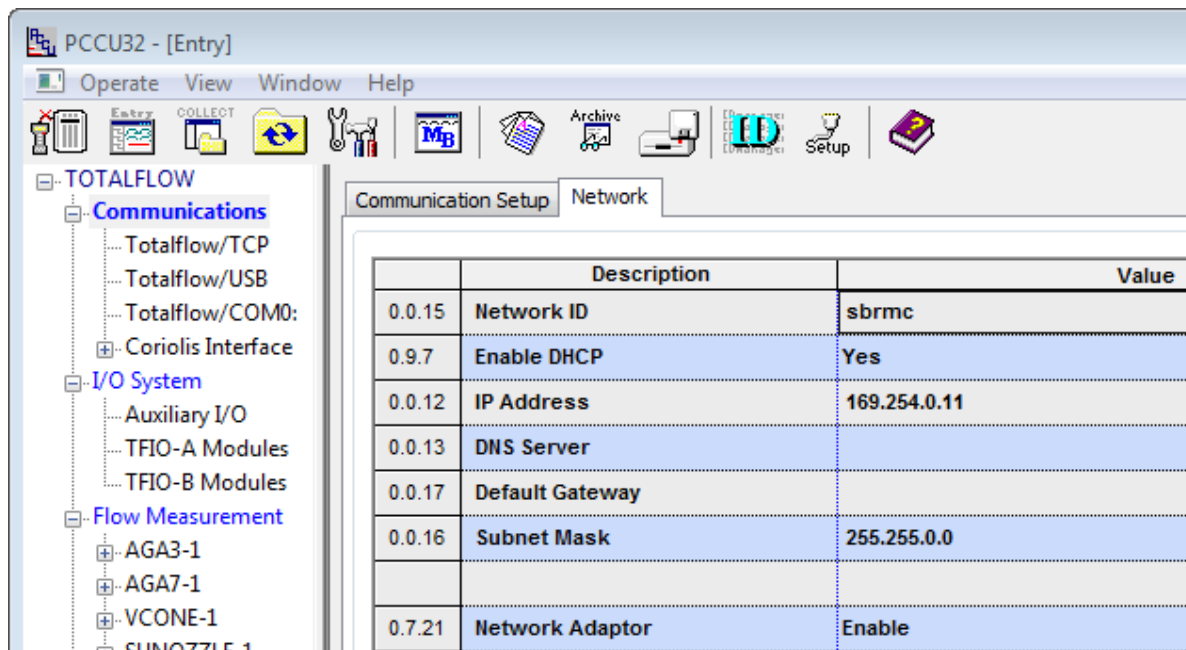

Figure 37: Ethernet remote communication setup
- e) Click the **Network** tab (Figure 37).